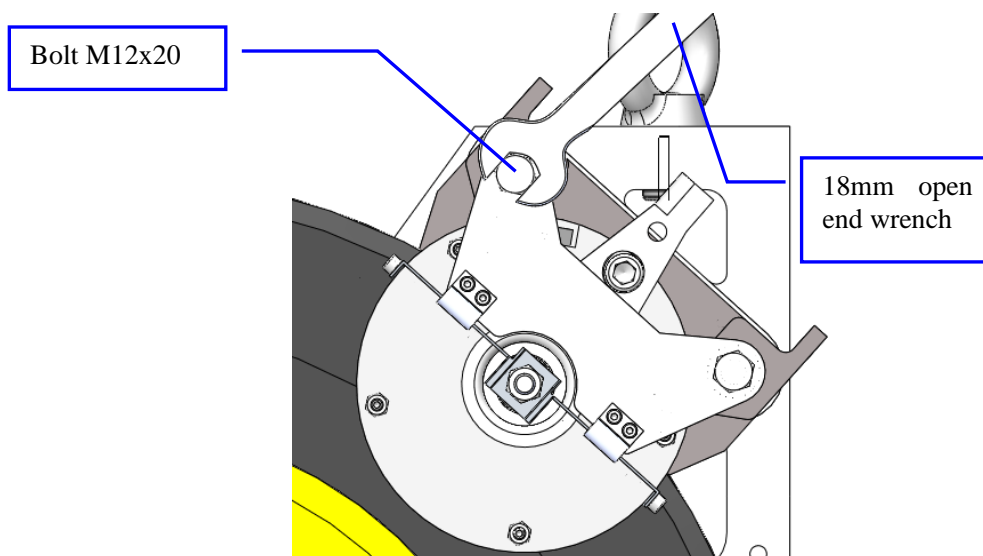
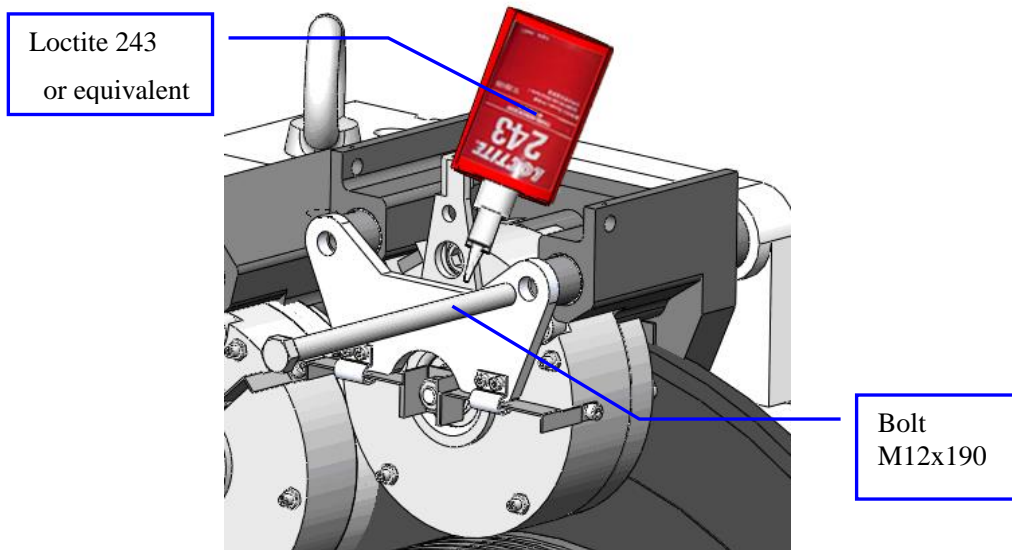

Figure 30: Remove Bolt M12x20
Figure 36: Apply Loctite 243 to M12x190 bolt
3. Use the open end wrench (18mm) to remove the bolt M12x20. (Let's take the right side brake for example shown in the following figure 30.)
4. Apply Loctite on bolt M12x190 as Figure 30 shows. Tighten bolt to ≥ 75 ft-lb. See Figures 36 and 37.